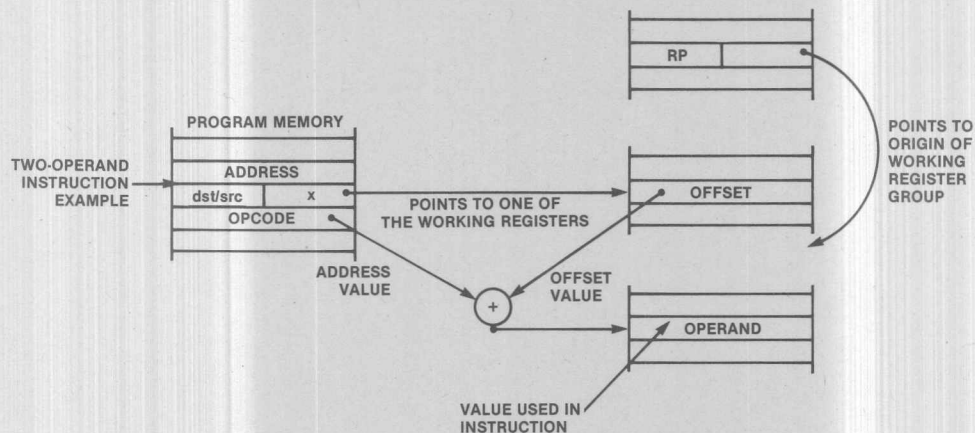

Figure 4-5. Indexed Addressing
4.4 INDEXED ADDRESSING (X)
The Indexed addressing mode is used only by the Load (LD) instruction. An indexed address consists of a register address offset by the contents of a designated working register (the Index). This offset is added to the register address to obtain the address of the operand. Figure 4-5 illustrates this addressing convention.